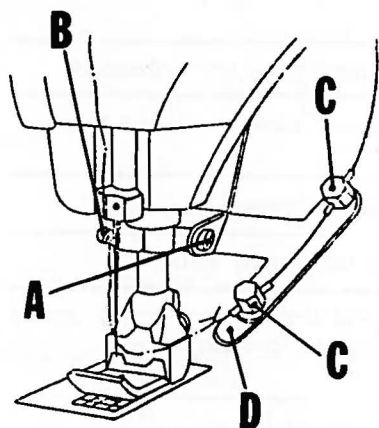

Fig. 14
This condition can be accomplished by loosening screws (A, B, C, Fig. 14), reposition as required, assuring that the wiper moves smoothly. Guard plate (D) must be positioned so the wiper will not hook into the fabric. Retighten screws.